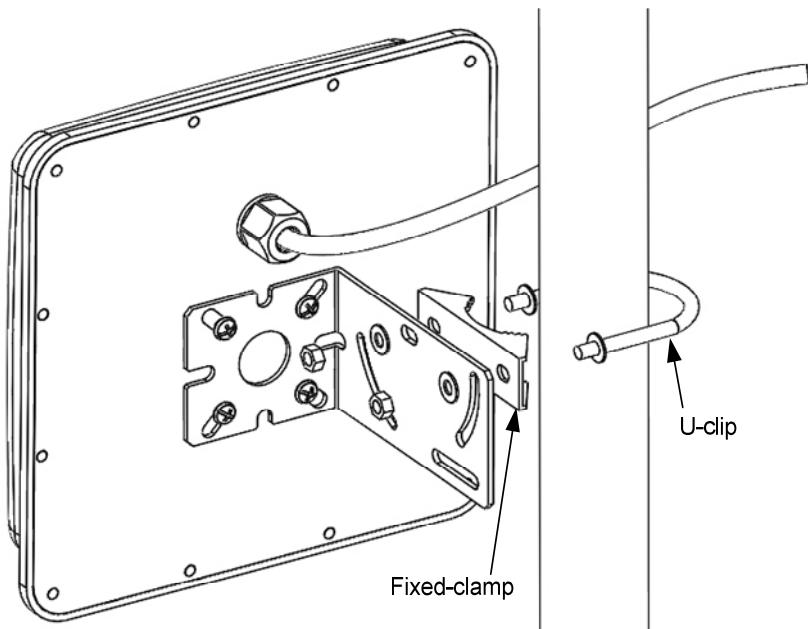

Figure 3-5
1. Click the **GeoVision DDNS** button on the Network Configuration page (Figure 3-5). Or open an Internet browser, and type the Web address <http://ns.gvdip.com/register.aspx>. This page (Figure 4-8) appears.